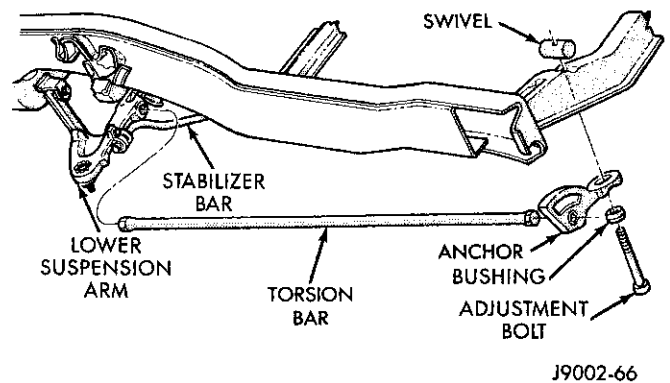

Fig. 3 Suspension Arm Height Adjustment
(3) The height of each front suspension arm is adjusted by turning the torsion bar adjustment bolt (Fig. 3).
(4) After each adjustment, jounce the vehicle before measuring to determine the effects of the adjustment.